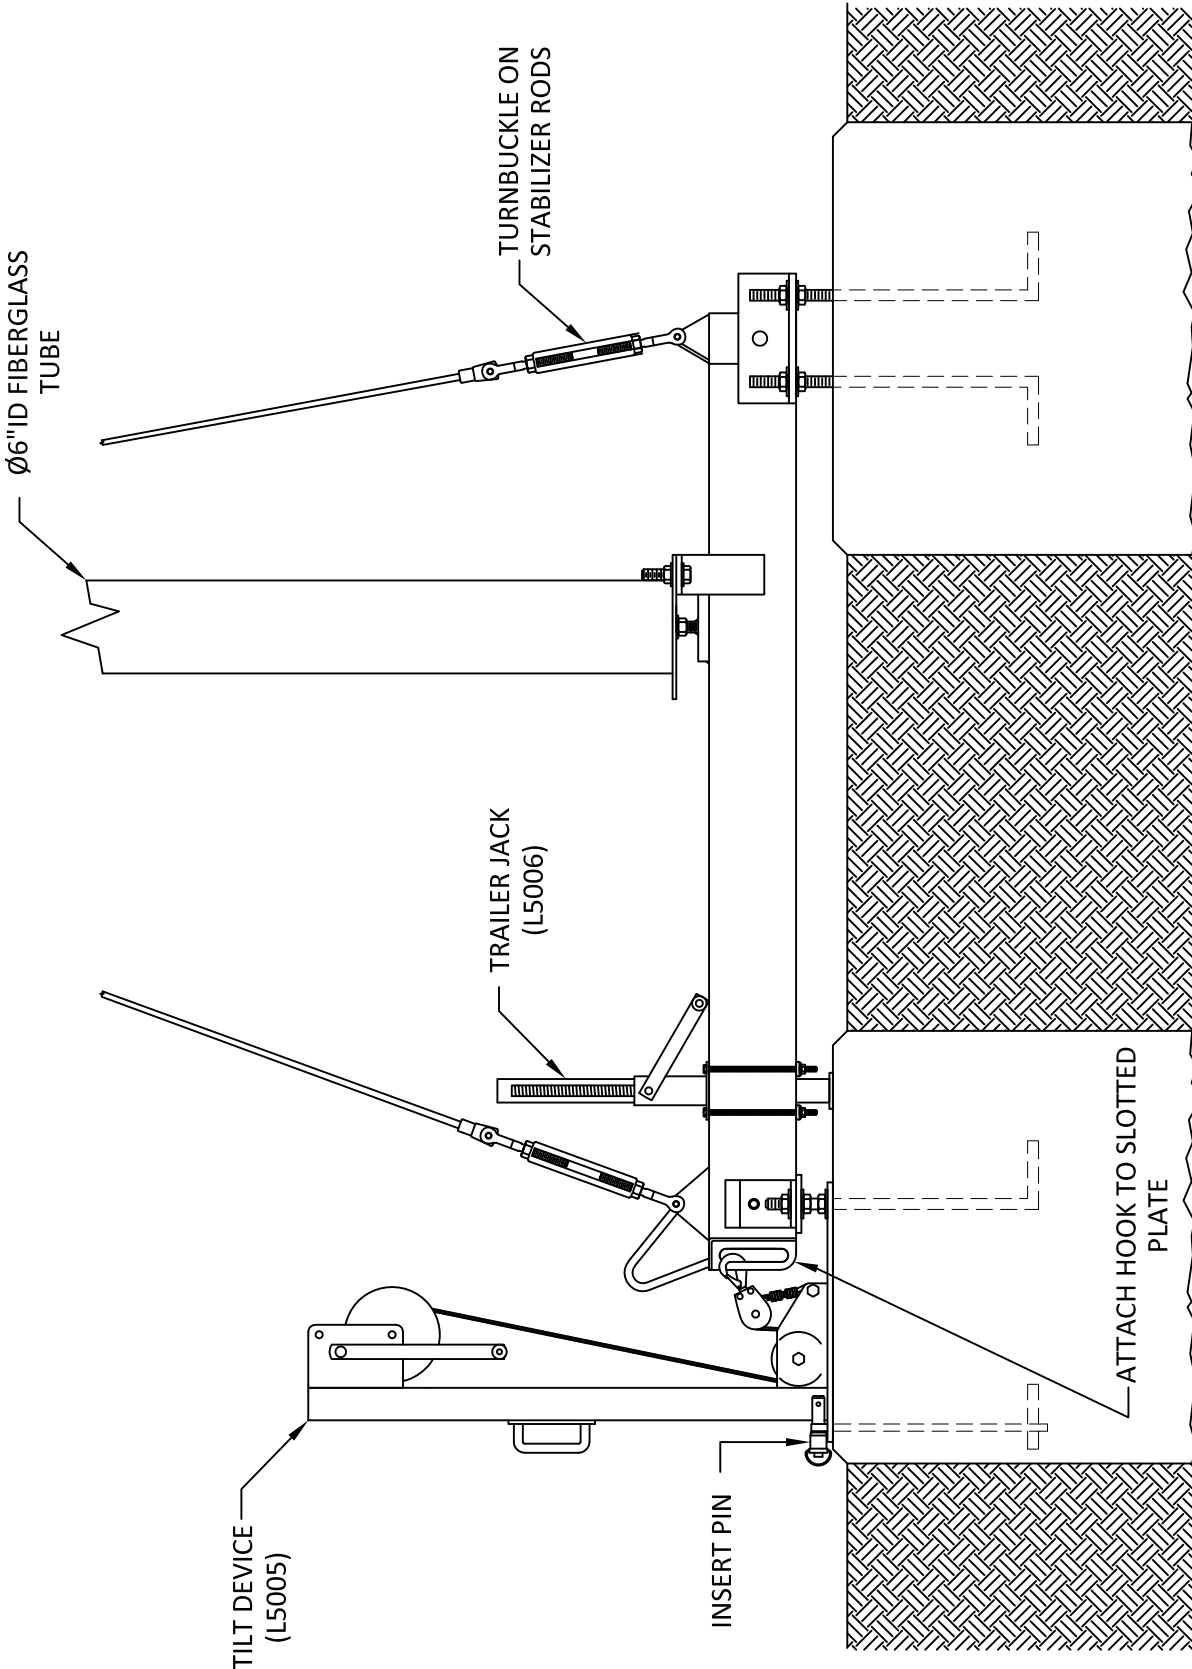

FIG. 3-3
- A. Attach tilt device to concrete pier by sliding it under the lower nuts on the two anchor bolts and over the tab provided in the concrete pier. (See Figure 3-3). Tighten the lower nuts on the anchor bolts with the 1-1/8" or 1-1/4" open end wrench. Insert the pin, attached to the tilt device, through the hole in the tab. The tilt device should now be solidly secured to the concrete pier.
- B. Attached the cable hook from the tilt device to the slotted plate on the mounting frame assembly. Turn handle of winch, on tilt device, to play out enough cable to reach the slotted plate. After the cable is attached to the slotted plate, take Up cable slack with winch. (See figure 3-3)